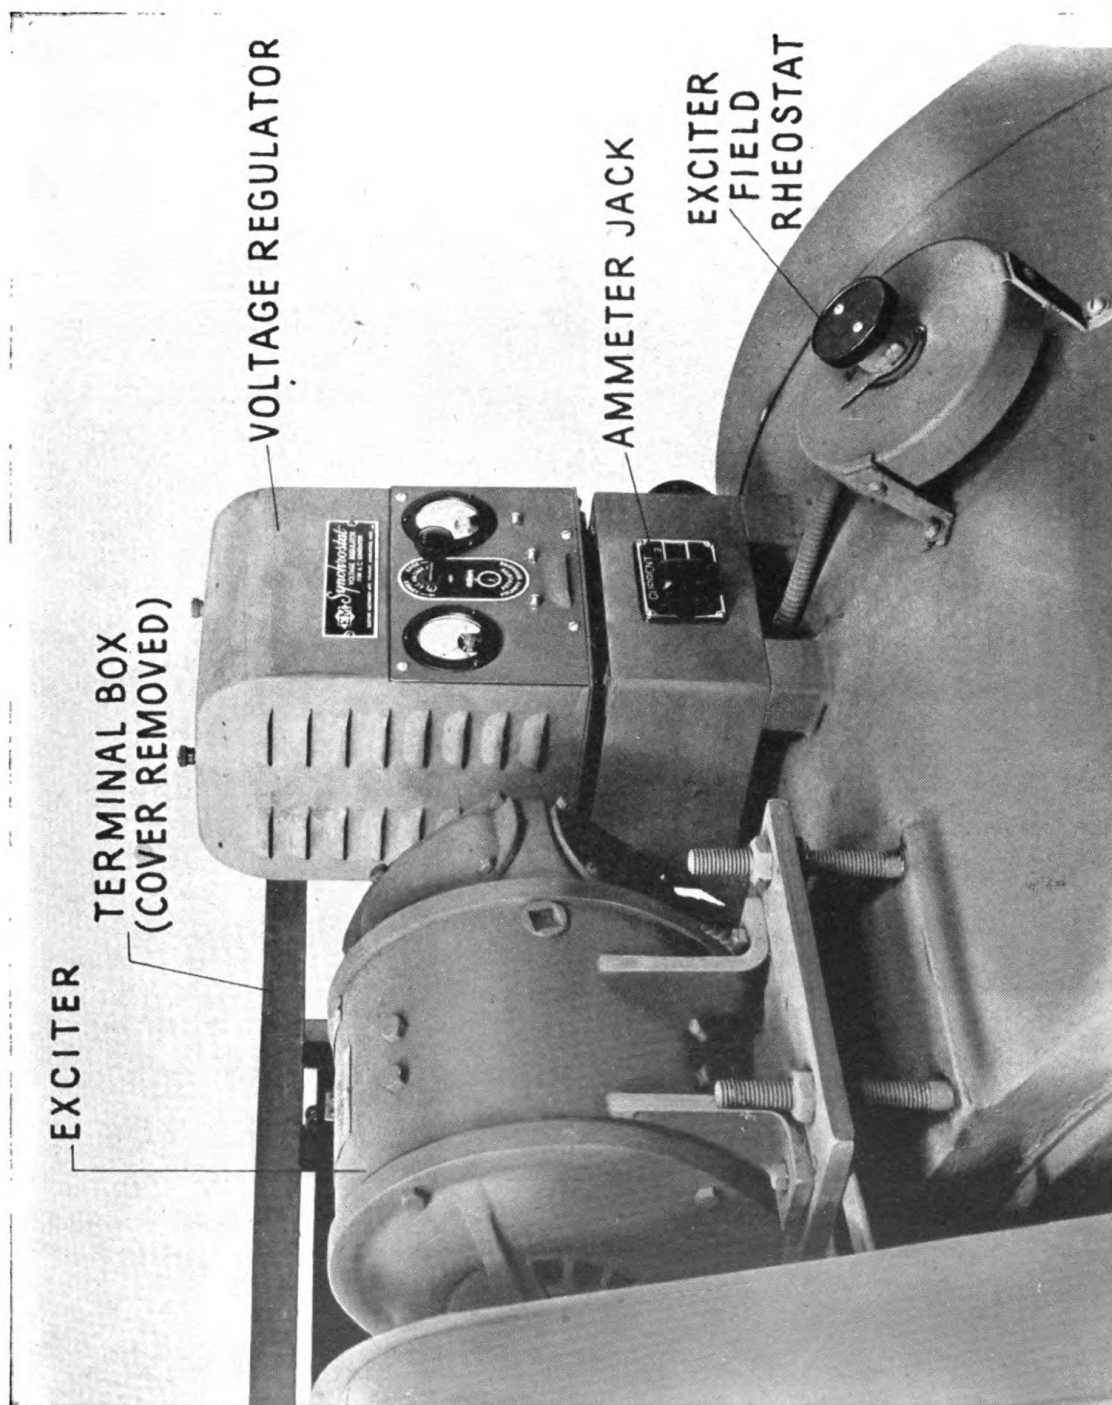

FIG. 2—Voltage Regulator, Exciter and Exciter Field Rheostat
- Figure 2 Voltage regulator, exciter and exciter field rheostat.